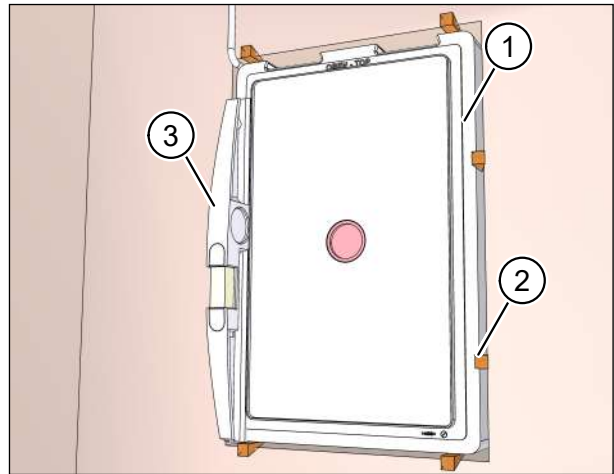

Fig. 21: Fixing the wall box
- ▶ Fix the wall box (item 1 in Fig. 21) in position in the wall breakthrough using wedges or air cushions (item 2 in Fig. 21) on both the inside and the outside.
- ▶ Use the spirit level (item 3 in Fig. 21) to align the wall box so that it is perpendicular and flush with the wall.